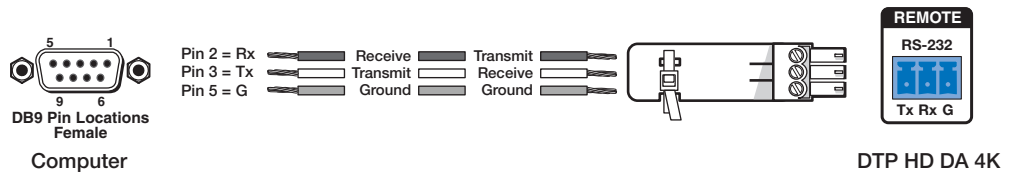

Figure 9. Wiring the DTP HD DA 4K Series for RS-232 Control
2. Wire the opposite end of the cable to the provided 3-pole captive screw plug (see figure 9):